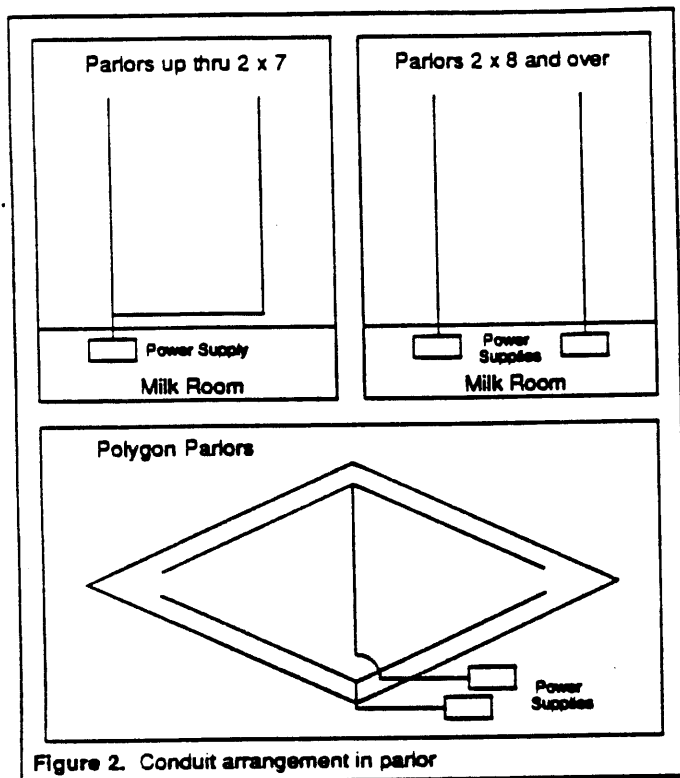

Figure 2. Conduit arrangement in parlor
1. Route 1/2" PVC conduit overhead from the power supply to the detachers, assembling the appropriate water-proof junction box at each detacher location. The arrangement of the conduit will vary depending on the parlor setup (see Figure 2).